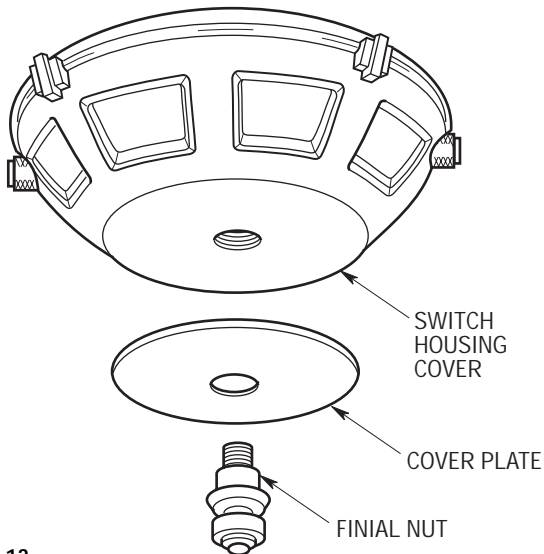

Figure 13
- 8. Position the cover plate on the switch housing cover (Figure 13) and secure in place by installing the finial nut finger tight.